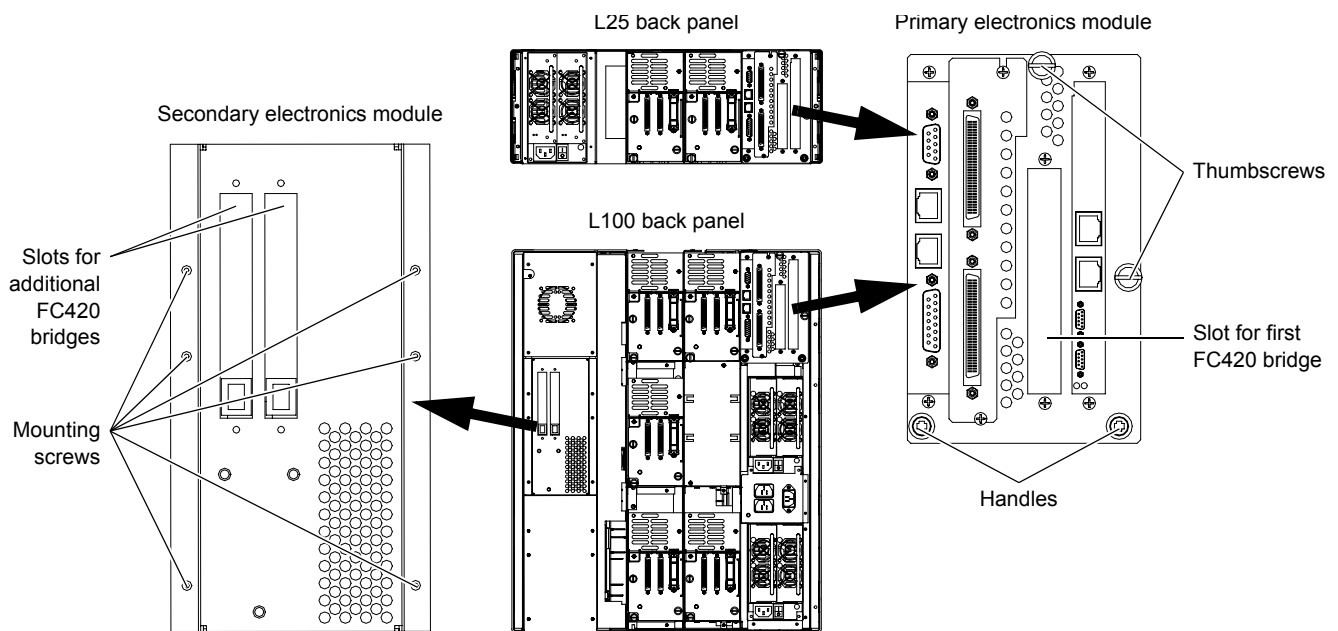

Figure 1 Removing the Primary and Secondary Electronics Modules
- 3 If you are installing the first FC420 bridge in the library, use a flat blade screwdriver to loosen the two large thumbscrews securing the primary electronics module to the back of the library (see figure 1), then pull the primary electronics module from the chassis using the round handles.